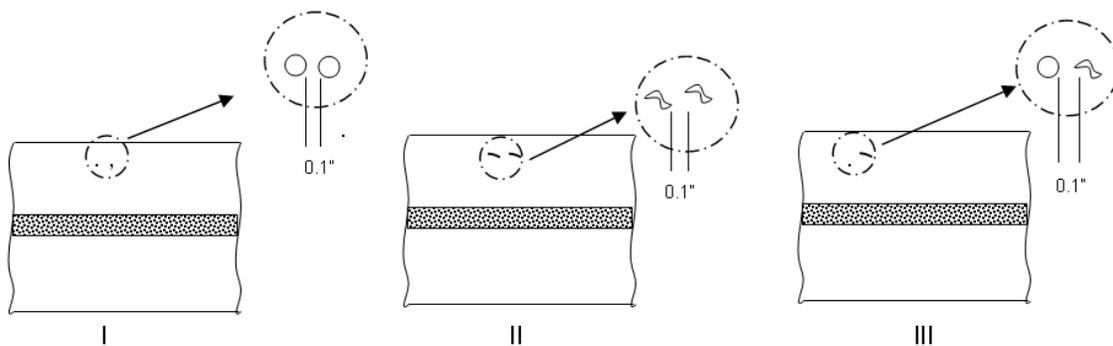

Figure 28-5 Damage Types
Table 28-2 shows damage classification where the proximity of the damage points is small. Such damages are considered to be one damage with a summation of the maximum length (L) or diameter (D). Figure 28-5 shows examples for each type presented in the table.
Figure 28-5 shows the special cases of failure/leakage types.